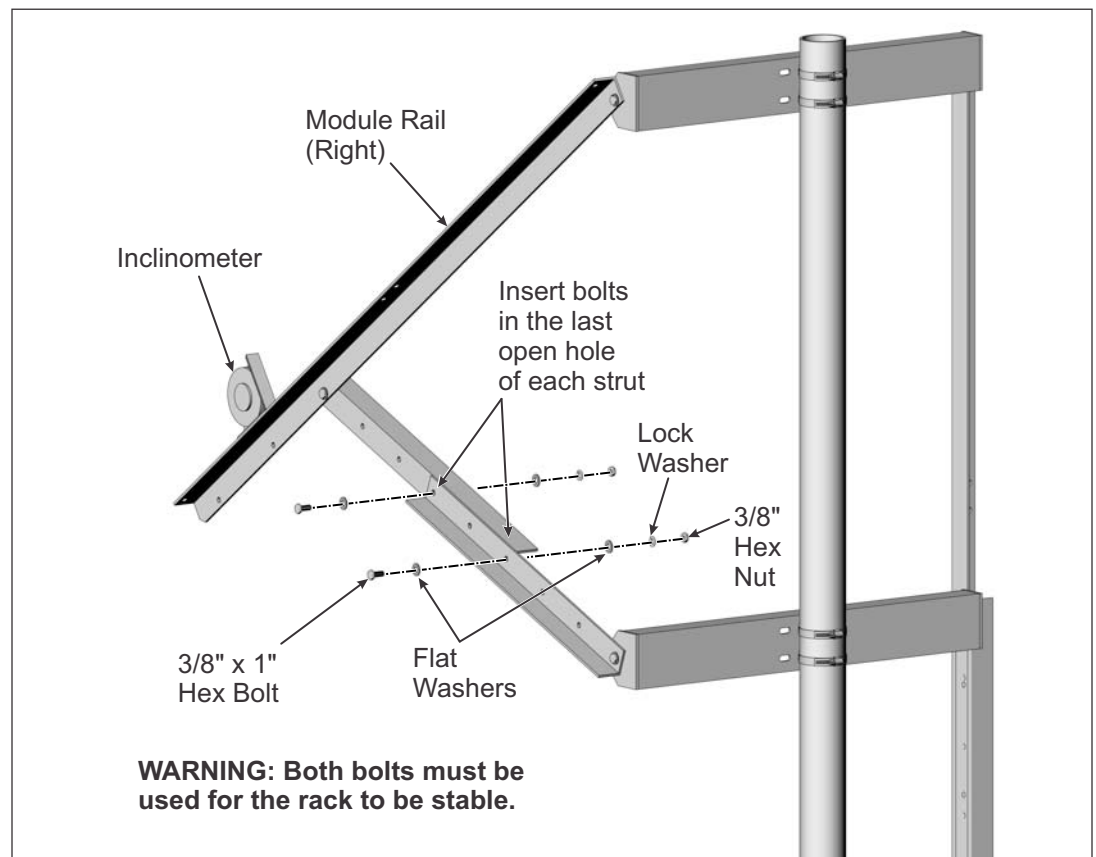

Figure 5-1: Joining the Two Halves of the Expandable Struts
- C. Secure the two halves with 3/8" x 1" hex bolt, lock washer, flat washers, and hex nut. Be sure and insert the bolts in the last hole on each of the two halves as shown in Figure 5-1. **Torque to 32-34 ft.-lbs.**